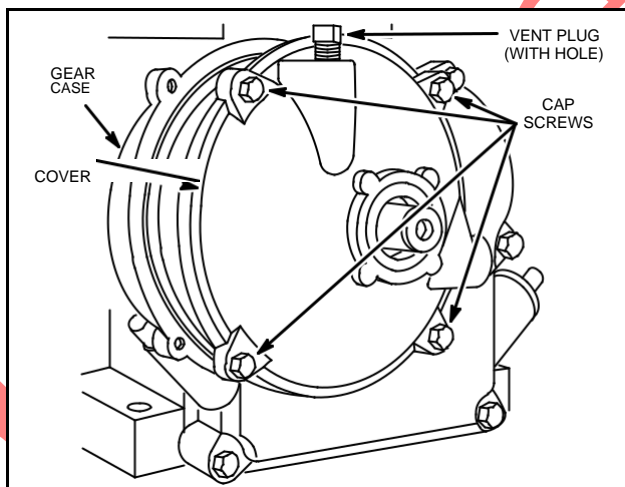

Fig. 130 – DRAINING GEAR REDUCTION AND REMOVING COVER
5. After gear case is drained, remove screws and cover, Fig. 130.